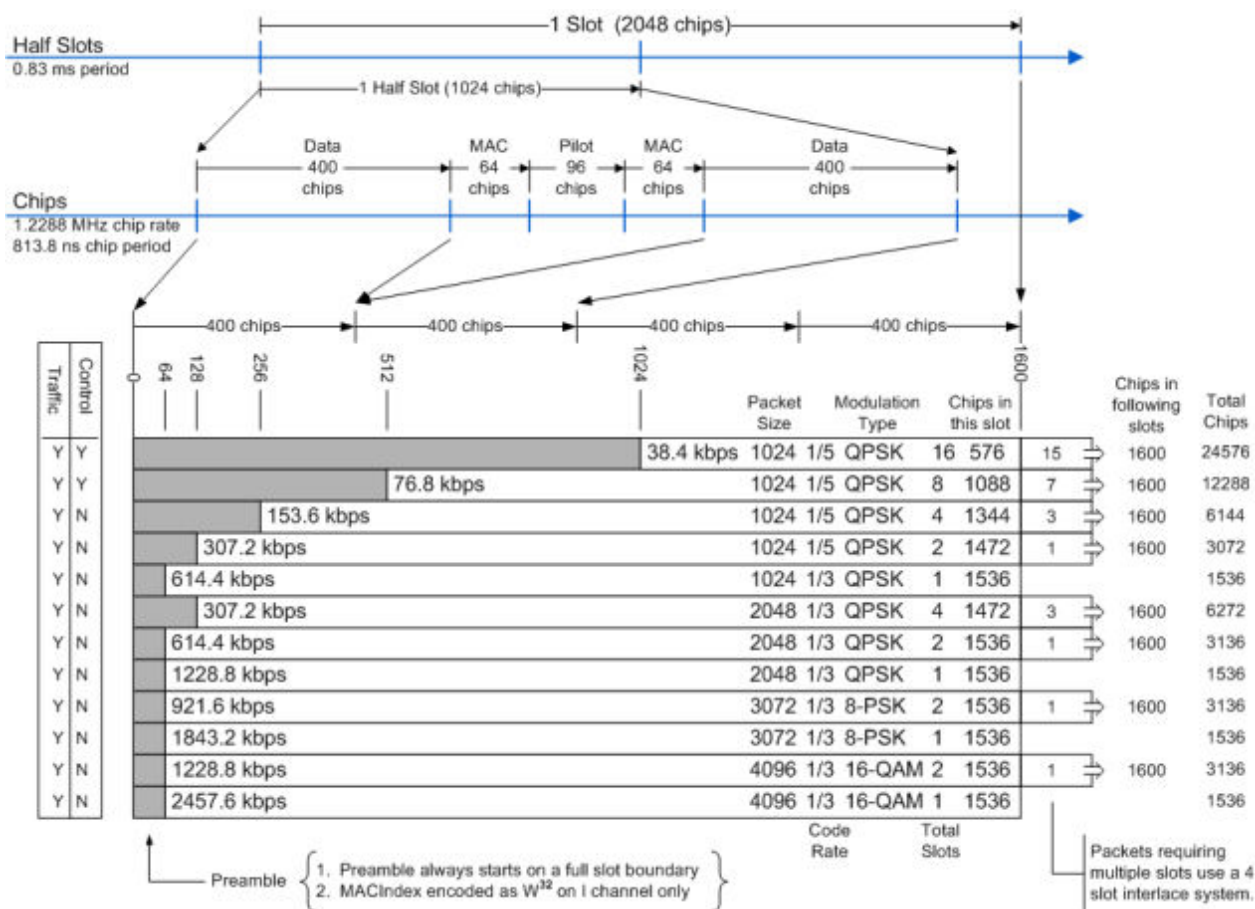

Fig. 4-1: Slot structure, chip distribution and preamble lengths in 1xEV-DO BTS application
The 1xEV-DO standard defines the BTS channel types. 1xEV-DO forward link signals contain 4 channel types which are sent exclusively at specific times (see also figure 4-1):
- **MAC:** The Medium Access Control channel type is 64 chips in front of and behind the PILOT. The MAC channel type contains the reverse activity (RA) channel and the MAC reverse power control (RPC) channels with which the power of the active terminals is controlled. The MAC indices described in the standard MAC can be transformed into Walsh codes very easily. The analysis for the MAC channel type is performed with spreading factor 64. BPSK-I and BPSK-Q modulation are used.
- **DATA:** The DATA channel type is located with a length of up to 400 chips at the beginning and end of each half slot. The useful data is transmitted in it. As shown in figure 4-1, there are packets that transmit their data distributed over 1, 2, 4, 8 or 16 slots, depending on the transmission rate. Initially, a PREAMBLE range is transmitted, being between 64 and 1024 chips long - followed by the data. If more than one slot is required for transmission, the other data of this data packet follows at intervals of four slots, then without another preamble. In the DATA channel type, QPSK, 8-PSK and 16-QAM modulation types are used. Analysis is performed with a spreading factor of 16.